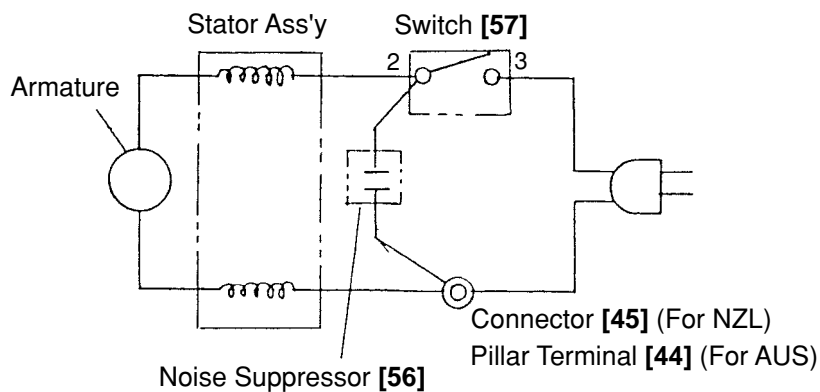

Fig. 3
(5) Wiring diagrams (See Figs. 3 to 4.):